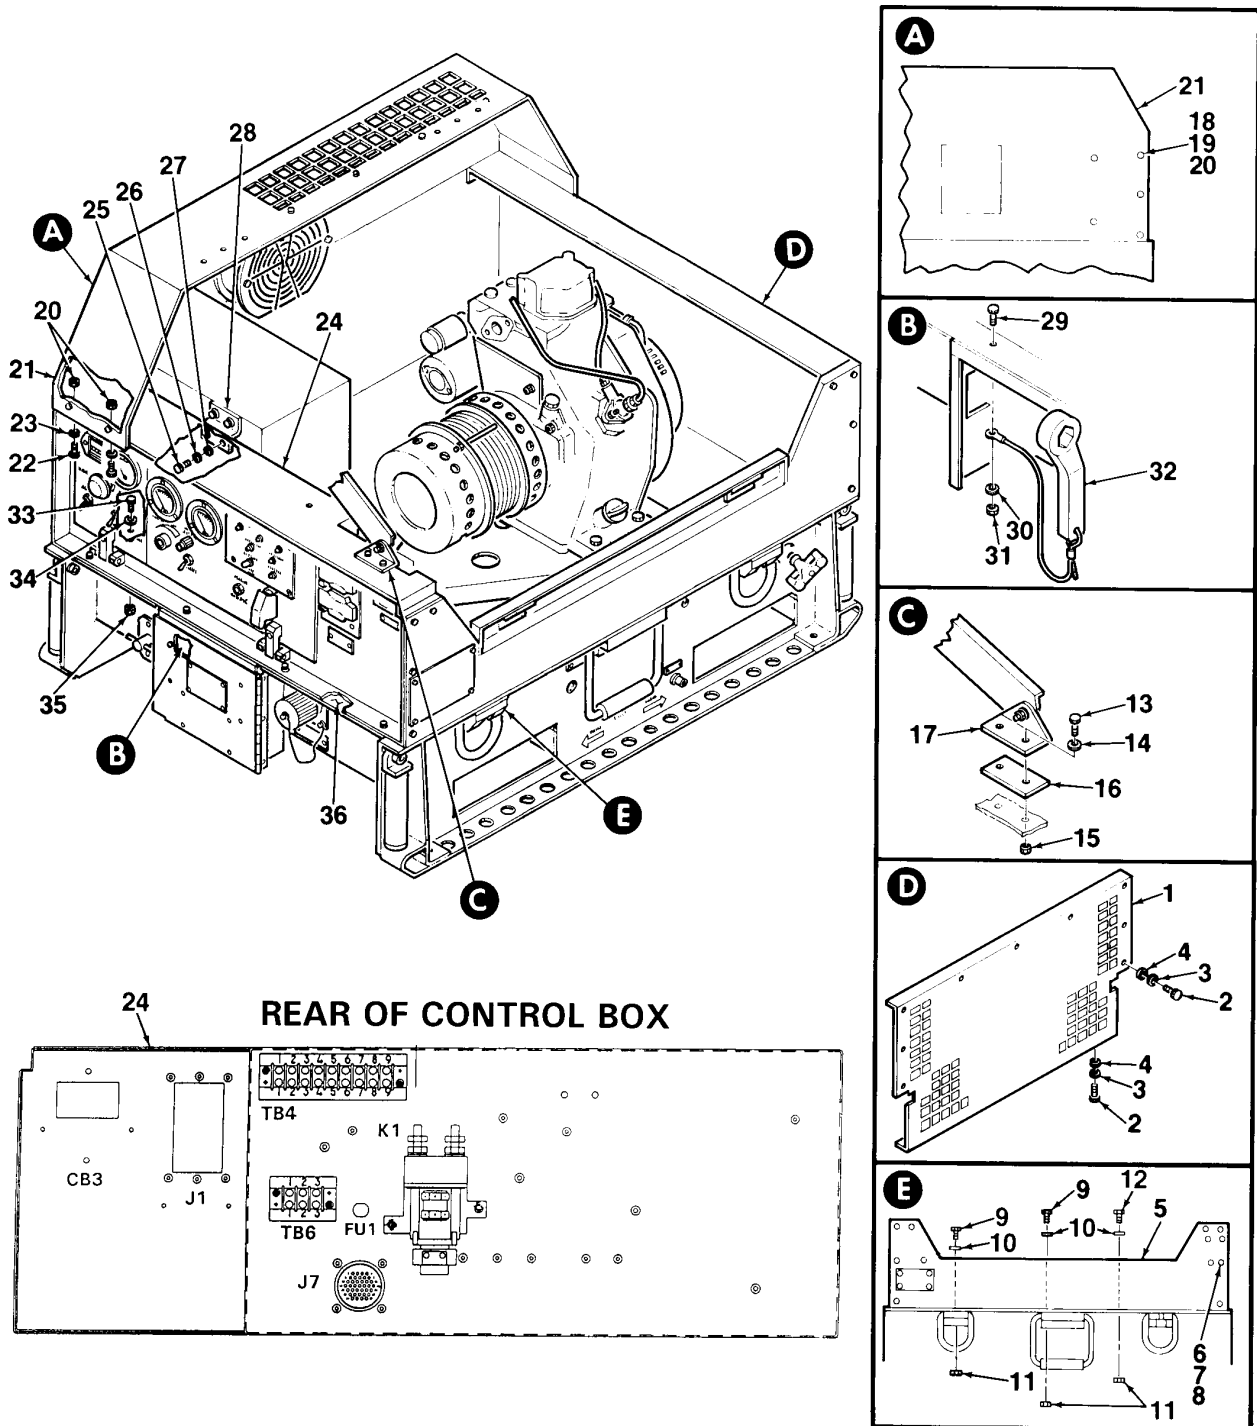

Figure 4-3. Control Box Assembly
1. Remove rear panel (1, Figure 4-3) by removing thirteen screws (2), lockwashers (3), and washers (4).
2. Remove left side panel (5) by removing eight screws (6), eight washers (7), and eight locknuts (8). Remove four screws (9), four screws (12), eight washers (10), and eight locknuts (11).
3. Remove two screws (13), washers (14), locknuts (15), and spacer (16) from left side cover support mounting bracket (17). Fold support up to gain clearance for control box.
6. Disconnect and tag wires from terminal boards TB4 and TB6, contactor K1, and fuse FU1 located on rear of control box (24). Disconnect J7 connector.
7. Remove five screws (18), washers (19), and locknuts (20) from right side panel (21).
8. Remove two screws (22), washers (23), and locknuts (20) from control box (24).
9. Remove two screws (25), lockwashers (26), and washers (27) from bracket (28).
10. Remove four screws (29), washers (30), locknuts (31), and terminal wrench (32).
11. Remove screw (33), washer (34), and locknut (35).
1. Install control box (24, Figure 4-3) and shim (36) into enclosure.
2. Install screw (33), washer (34), and locknut (35).
3. Install four screws (29), washers (30), locknuts (31), and terminal wrench (32).
4. Install two screws (25), lockwashers (26), and washers (27) onto bracket (28).
5. Install two screws (22), washers (23), and locknuts (20).
6. Install five screws (18), washers (19), and locknuts (20) into right side panel (21).
7. Connect electrical wires to terminal boards TB4 and TB6, contactor K1, and fuse FU1 located on rear of control box (24). Connect connector J7.
10. Install two screws (13), washers (14), locknuts (15), and spacer (16) onto left side cover support mounting bracket (17).
11. Install left side panel (5) using eight screws (6), eight washers (7), and eight locknuts (8). Install four screws (9), four screws (12), eight washers (10), and eight locknuts.